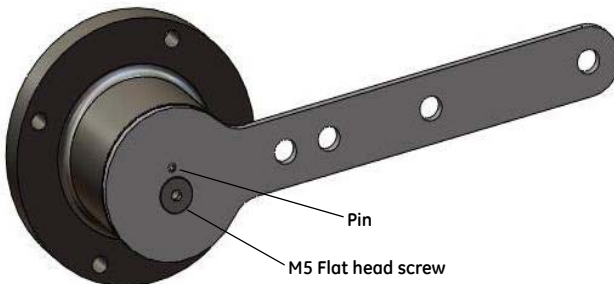

Figure 6 Magnet Holder for Reciprocating Valves
1. Ensure that the lever is pinned to the magnet assembly and held securely by an M5 flat head screw to ensure that the magnet axis is vertical when the lever is in the valve closed position. Tighten the lever screw securely. Refer to Figure 6.